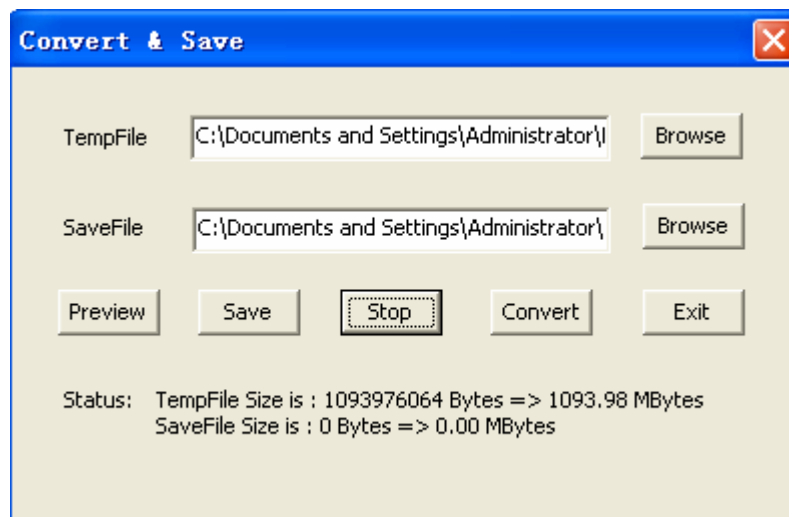

Figure 11: Stop
5. Click "stop", the viewfinder stops, the temp file recoding process is completed, see Figure 11, at the bottom of the dialogue box, it shows the status of the temp file.